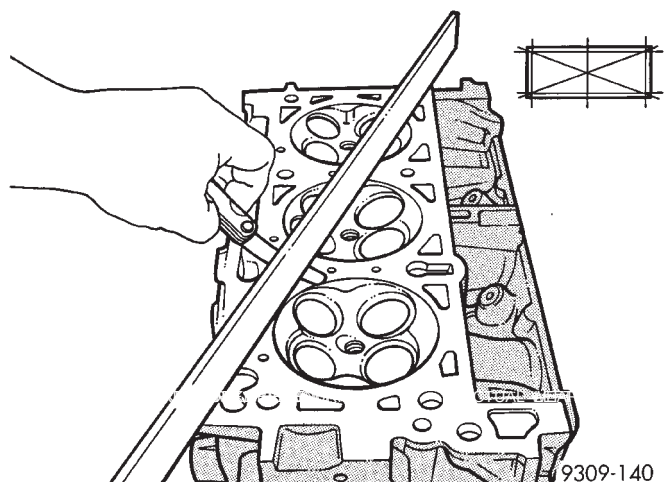

Fig. 101 Checking Cylinder Head Flatness
(1) Before cleaning, check for leaks, damage and cracks.
(2) Clean cylinder head and oil passages.
(3) Check cylinder head for flatness (Fig. 101).
(4) Cylinder head must be flat within: